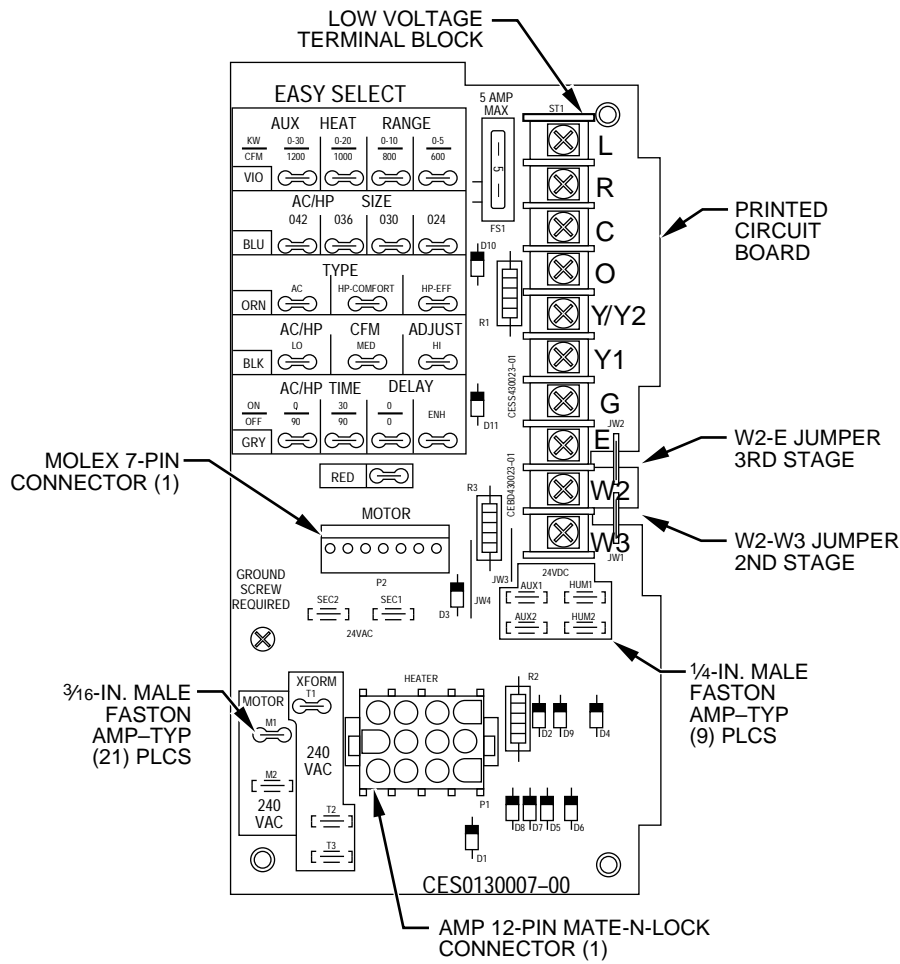

Fig. 16—Easy Select Board
NOTE: Layout of actual PCB is depicted in Fig. 16 and 17.
The Easy Select taps are used by installer to configure system. The ICM2 uses selected taps to modify its operation to a pre-programmed table of airflows. Airflows are based on system size or mode of operation and those airflows are modified in response to other inputs such as the need for de-humidification. (See Fig. 16.)
The installer must select the auxiliary heat airflow approved for application with kw size heater installed. If no heater is installed, skip this step. Each select pin is marked with a range of heaters for which airflow (also marked) is approved. For increased comfort select the narrowest kw range matching the heater size, for example, 0-10 for a 10-kw heater. This airflow must be greater than the minimum CFM for electric heater application with the size system installed for safe and continuous operation. Note that airflow marked is the airflow which will be supplied in emergency heat mode and heating mode on air conditioners when electric heat is primary heating source. To ensure safe heater operation in heat pump heating mode when electric heaters are energized, the ICM2 will run the higher of heat pump efficiency airflow and electric heater airflow. The factory selection is largest heater range approved. (See Fig. 16.)
The factory setting for air conditioner or heat pump size is largest unit meant for application with model of fan coil purchased. The installer needs to select air conditioner or heat pump size to ensure that airflow delivered falls within proper range for size of unit installed in all operational modes. (See Fig. 16.)
The factory setting is AC. (See Fig. 16.)
Select low, medium, or high airflow. To provide any of these airflows, AC/HP ADJUST select must be moved to MED position. The factory selection is LO. The adjust selections HI/LO will regulate airflow supplied for all operational modes, except non-heat pump heating modes, +10 percent and -10 percent respectively. The adjust selection options are provided to adjust airflow supplied to meet individual installation needs for such things as noise, comfort, and humidity removal. (See Fig. 16.)
Select desired time delay profile. Four motor operation delay profiles are provided to customize and enhance system operation. (See Fig. 16.) The selection options are:
1. Check low-voltage transformer leads (red and brown). Be sure they are wired to correct locations. (See Fig. 16 and 18.)
2. Check output voltage of transformer secondary side SEC2 and SEC1. Be sure transformer output is around 24 vac. If transformer output is zero vac and transformer is receiving correct input voltage (208v or 240v), then transformer needs to be replaced with recommended transformer. If transformer output is 24 vac, proceed to items 3 and 4.
3. Check low-voltage fuse shown in Fig. 16. If fuse is blown, replace it. The transformer cannot supply power to board with fuse blown or loose. If fuse blows when unit has power applied to it, the system most likely has 1 of the following problems: